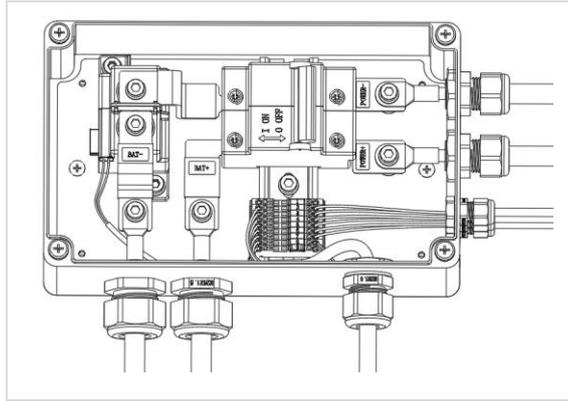

Figure 4-8
4. The complete wiring harness connection diagram of the maintenance control box as shown in Figure 4-8.